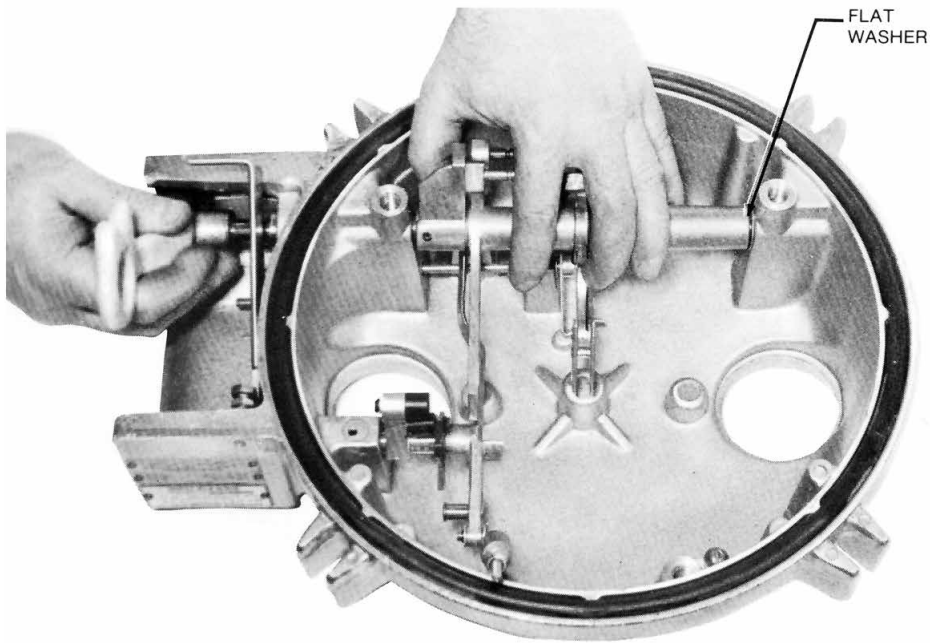

Figure 55. Reassembling head mechanism
3. Slide lockout spring lever, counter spring, lockout cam and link assembly, and lockout lever onto their shaft. Note that the hollow shaft end must point toward the sleet hood. Position this assembly. Be sure to include the flat washer on one end of the shaft. See Figure 55.